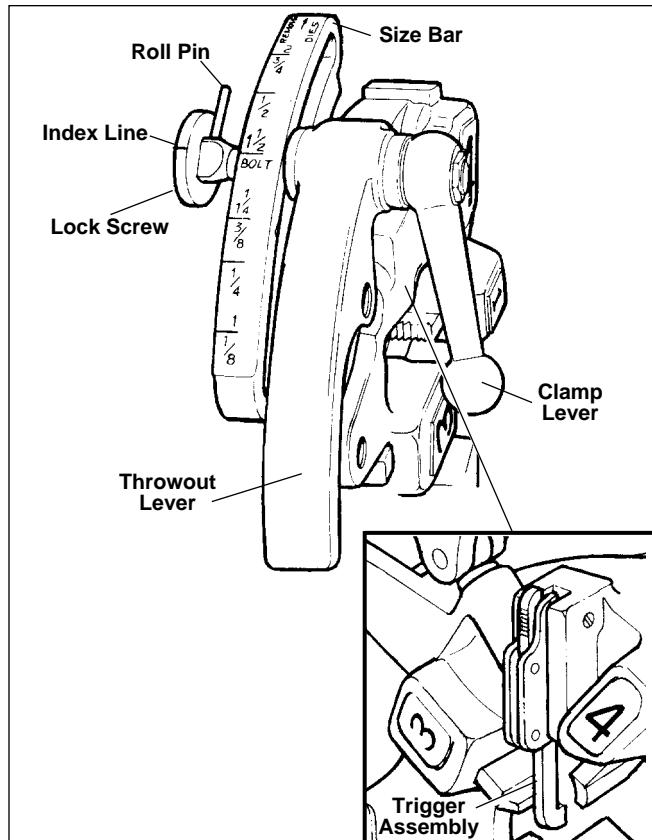

Figure 12 – Self-Opening Die Head
7. **Self-Opening Die Head** (*Figure 12*) – When **die head trigger** contacts end of pipe, **throwout lever** is automatically opened.
The No. 815A Self-Opening Die Head (Figure 12) for right hand threads requires four sets of dies to thread pipe ranging from  $\frac{1}{8}$ " through 2". One set of dies is required for each of the following pipe size ranges: ( $\frac{1}{8}$ "), ( $\frac{1}{4}$ " and  $\frac{3}{8}$ "), ( $\frac{1}{2}$ " and  $\frac{3}{4}$ "), and (1" through 2"). Bolt threading requires a separate set of dies for each bolt size.